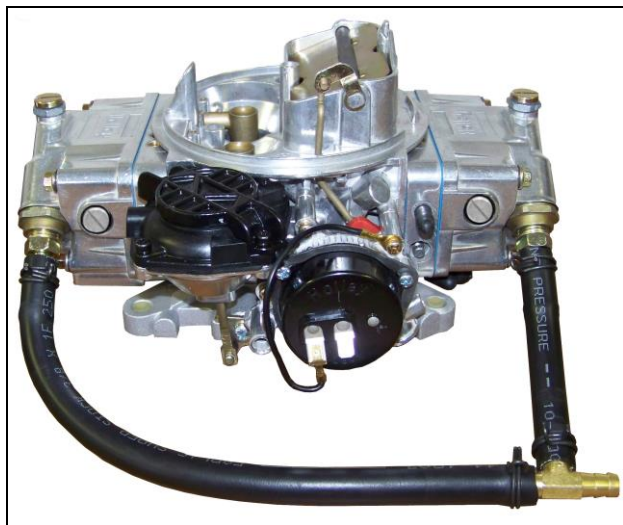

Figure 7
9. Assemble the fuel line assembly as shown in **Figure 7**.